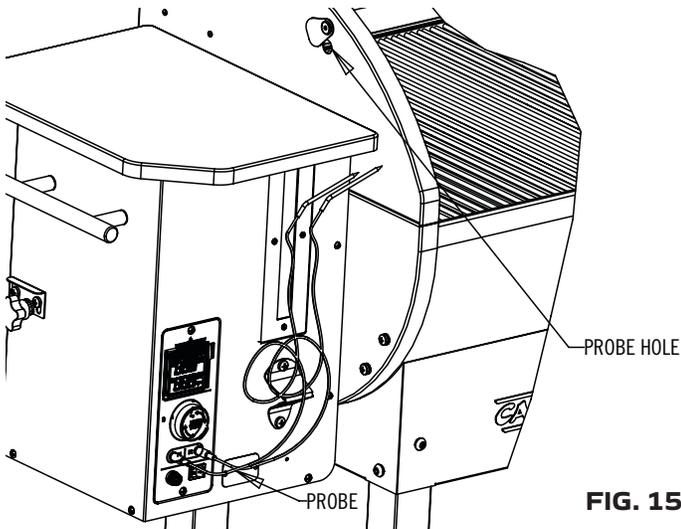

FIG. 15
1. Plug the Meat Probe into the Probe receptacle on the control panel. Run the probe and wire through the probe access hole on the side of the grill. See Fig 15.